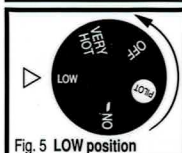

Fig. 5 LOW position
- 10) To increase the water temperature set-point rotate the control knob counter-clockwise ⤴ to the desired temperature setting (Fig. 5). The preferred starting point for temperature is indicated by "HOT" on the control knob.